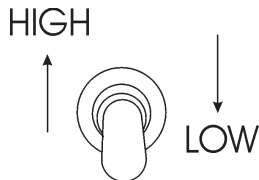

Figure 70. Engine Throttle Control
2. Place the throttle control (Figure 70) in the "LOW" position.